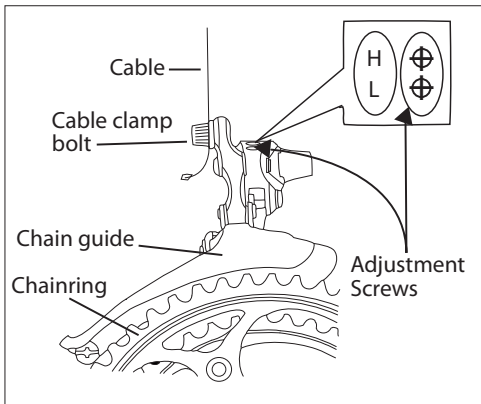

Fig. 55: Front Derailleur Adjustments.
2. Decrease the tightness of the cable clamp bolt (Fig. 55) until the cable is free.